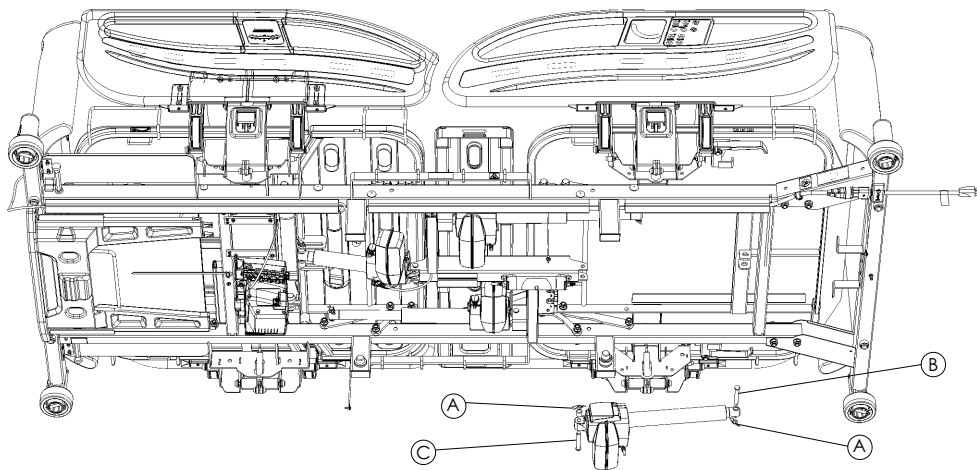

Figure 3 – Fowler (backrest) actuator
9. Using needle nose pliers, remove and discard the rue ring cotter pins (A) (Figure 3) from each clevis pin.
10. Using one hand, support the Fowler (backrest) actuator and remove and save the head end clevis pin (B) (Figure 3) then allow the Fowler (backrest) actuator to pivot down.
11. Using one hand, support the Fowler (backrest) actuator and remove and save the foot end clevis pin (C) (Figure 3) and spacer.